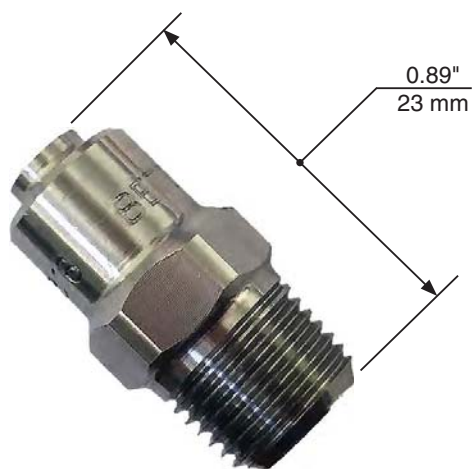

Figure 7a: Spray nozzle.
- The Q-SUN Xe-1-SE and Xe-1-SCE have two spray nozzles (Figure 7a).